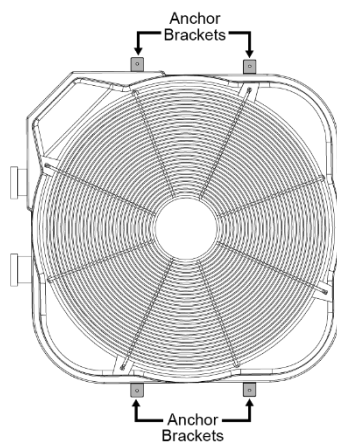

FIGURE 1
10. If heat pump anchoring is required, refer to anchor placements in **Figure 1**.